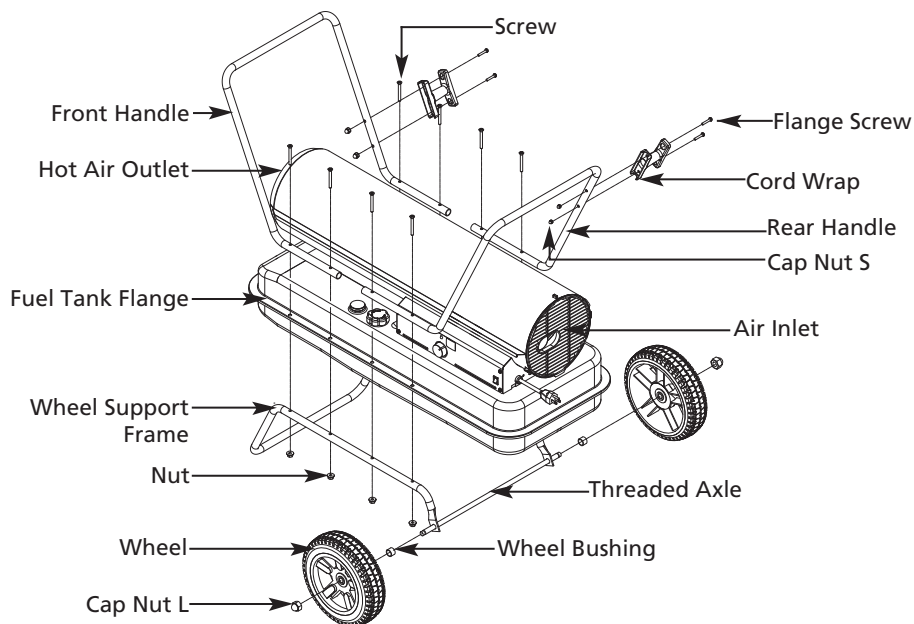

**Figure 7 – Handle and Cord Wrap Installation 3VE48D and 3VE49D only**
2. Align the holes in upper housing with two mounting holes on the handle as shown in Figure 7.
4. Insert cord wrap into the rectangle holes on the supporter and align the hole on the cord wrap with the mounting hole on the side cover as shown in Figure 7.